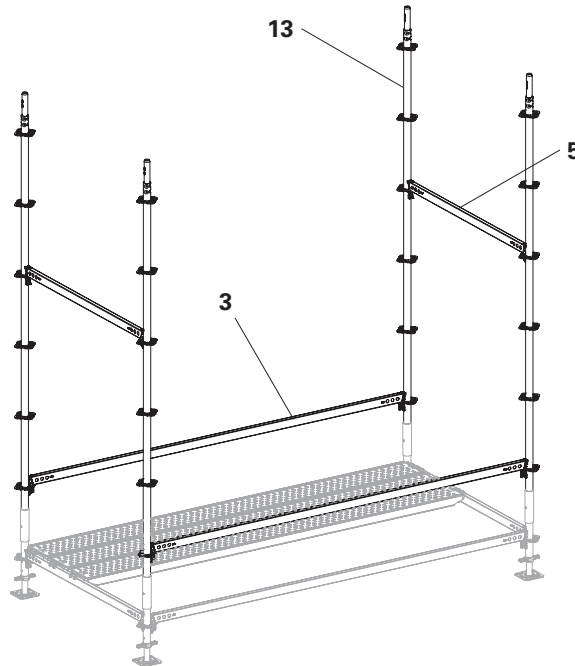
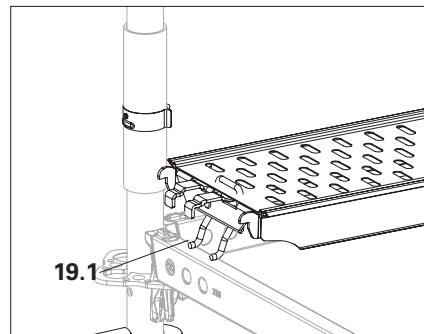

Fig. A3.07
Fig. A3.07a
2. Fit Steel Decks UDG-2 (**19**) in the base level as an installation aid. (Fig. A3.07 + Fig. A3.07a)
4. Attach Horizontal Ledgers UH-2 300 (**3**) and secure wedges with hammer blow. (Fig. A3.07)